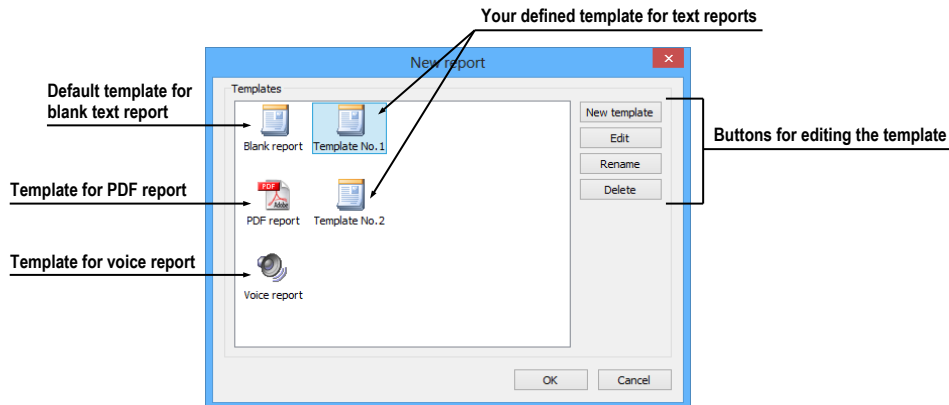

Figure 391 – Template choice dialog
The TomoCon application offers you the possibility of creating three types of structured reports. To create a new report, click the **Create new report** item (the  icon) in the left toolbar of the **Reports** dialog. A new report can be created only if a study is open in TomoCon. The **New report** dialog is then displayed in which you can select the template for the new report (see Figure 391) by double-clicking the template icon.
- Text report - after double-clicking the  text type report icon, you can write a text report in the **Report** dialog that is displayed (see 22.3.2 Report editor). You can select the **Blank report** template or another one of your prepared text templates (Template No.1, see Figure 391). Your text template can define the predefined structure of the new text report.